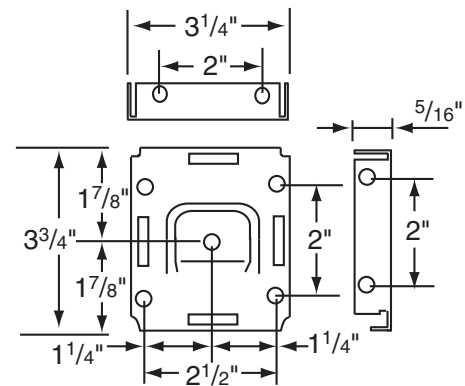

Figure 5
- ④ Mount endcaps using appropriate fasteners for surface (see Fig. 5 for bracket dimensions). **The installer is responsible for selecting mounting hardware appropriate for site conditions.**
- ⑥ Properly route the bead chain through the chain guide, then attach the chain guide cover to the chain guide using the provided screw (see Fig. 5 on page 1).